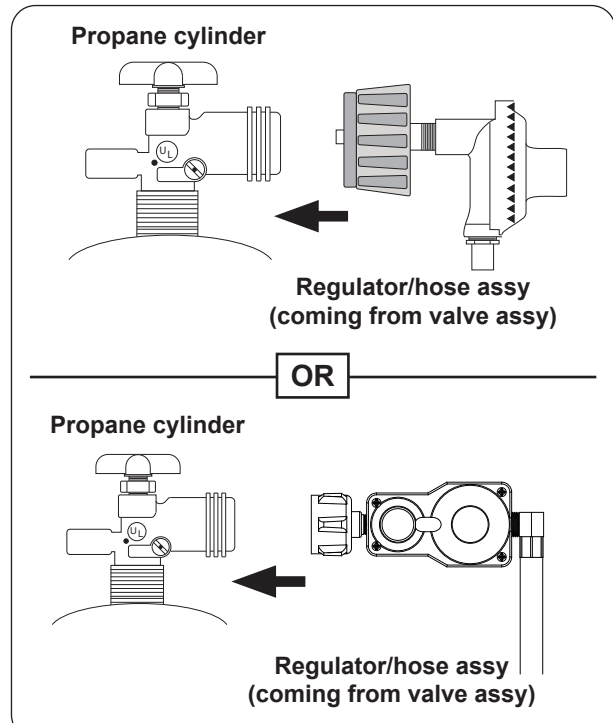

Fig. 30-2 Connecting hose assy to L.P. cylinder
2. Attach the regulator end of the hose assembly to a propane cylinder (not included) and tighten (see Fig. 30-2).